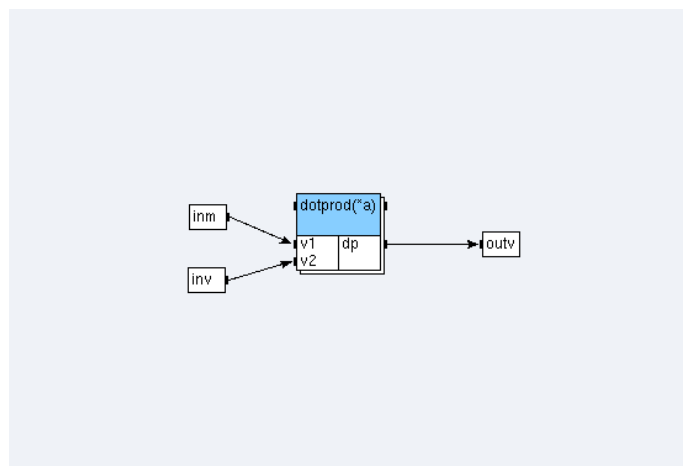

Figure 4.8: Algorithm of the function `prodmatvec`
- then create dependences to obtain an algorithm (*cf.* figure 4.8).